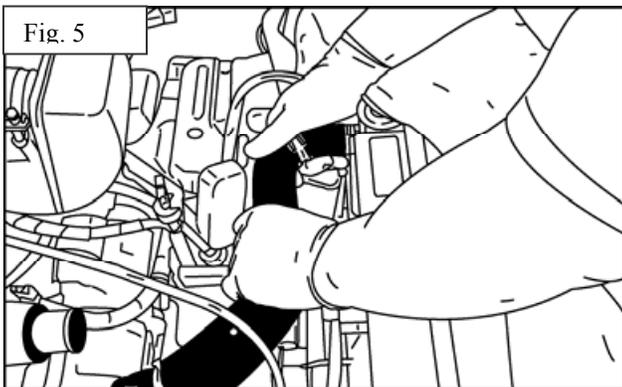

Fig. 5
- (g) **Remove upper radiator hose.** Fig. 5. This will not be re-used. Temporarily disconnect Air Fuel Ratio (AFR) Sensor at the electrical connector Fig 6. Place the blacken section on after supercharger bolt tightening